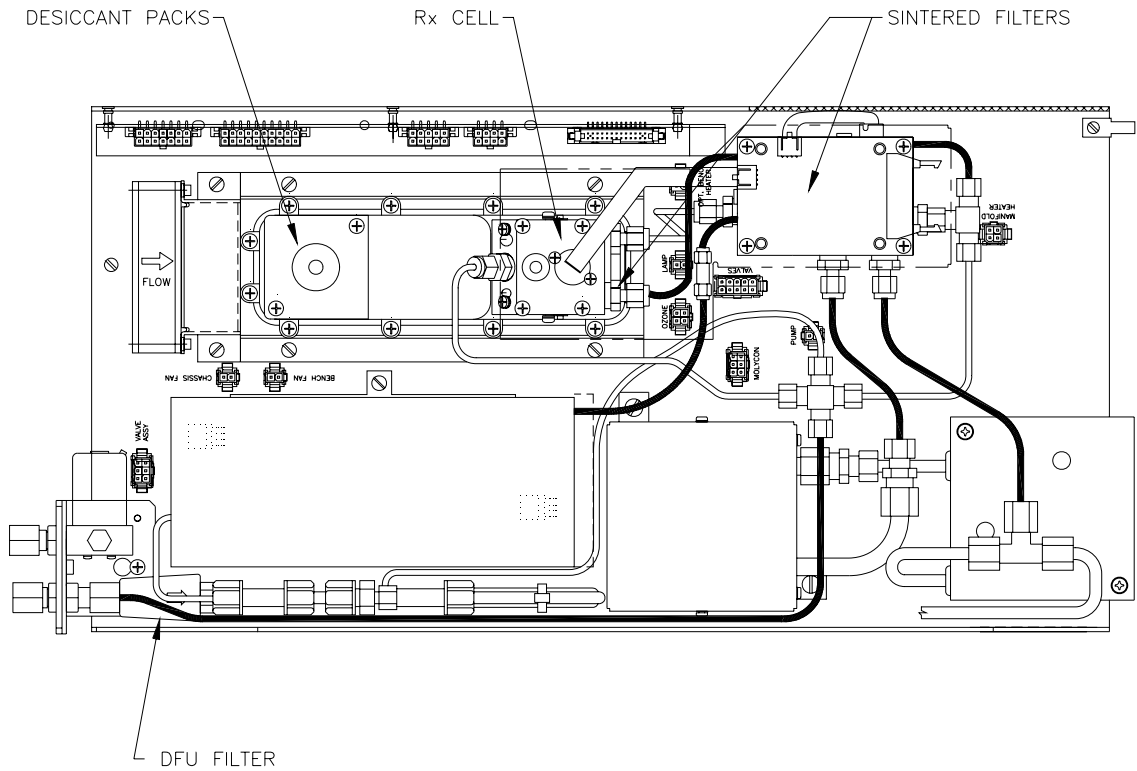

Figure 12. Routine Maintenance Components (B Series)
2. Using a Phillips head screwdriver, remove the desiccant pack access cap from the PMT housing. Refer to Figure 12.